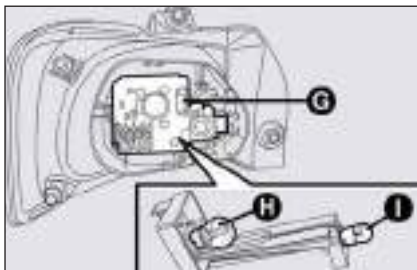

fig. 33
- press the bulb holder tab **G**-fig. 33 to remove it;
The bulbs are arranged inside the light unit as follows (**fig. 33**):